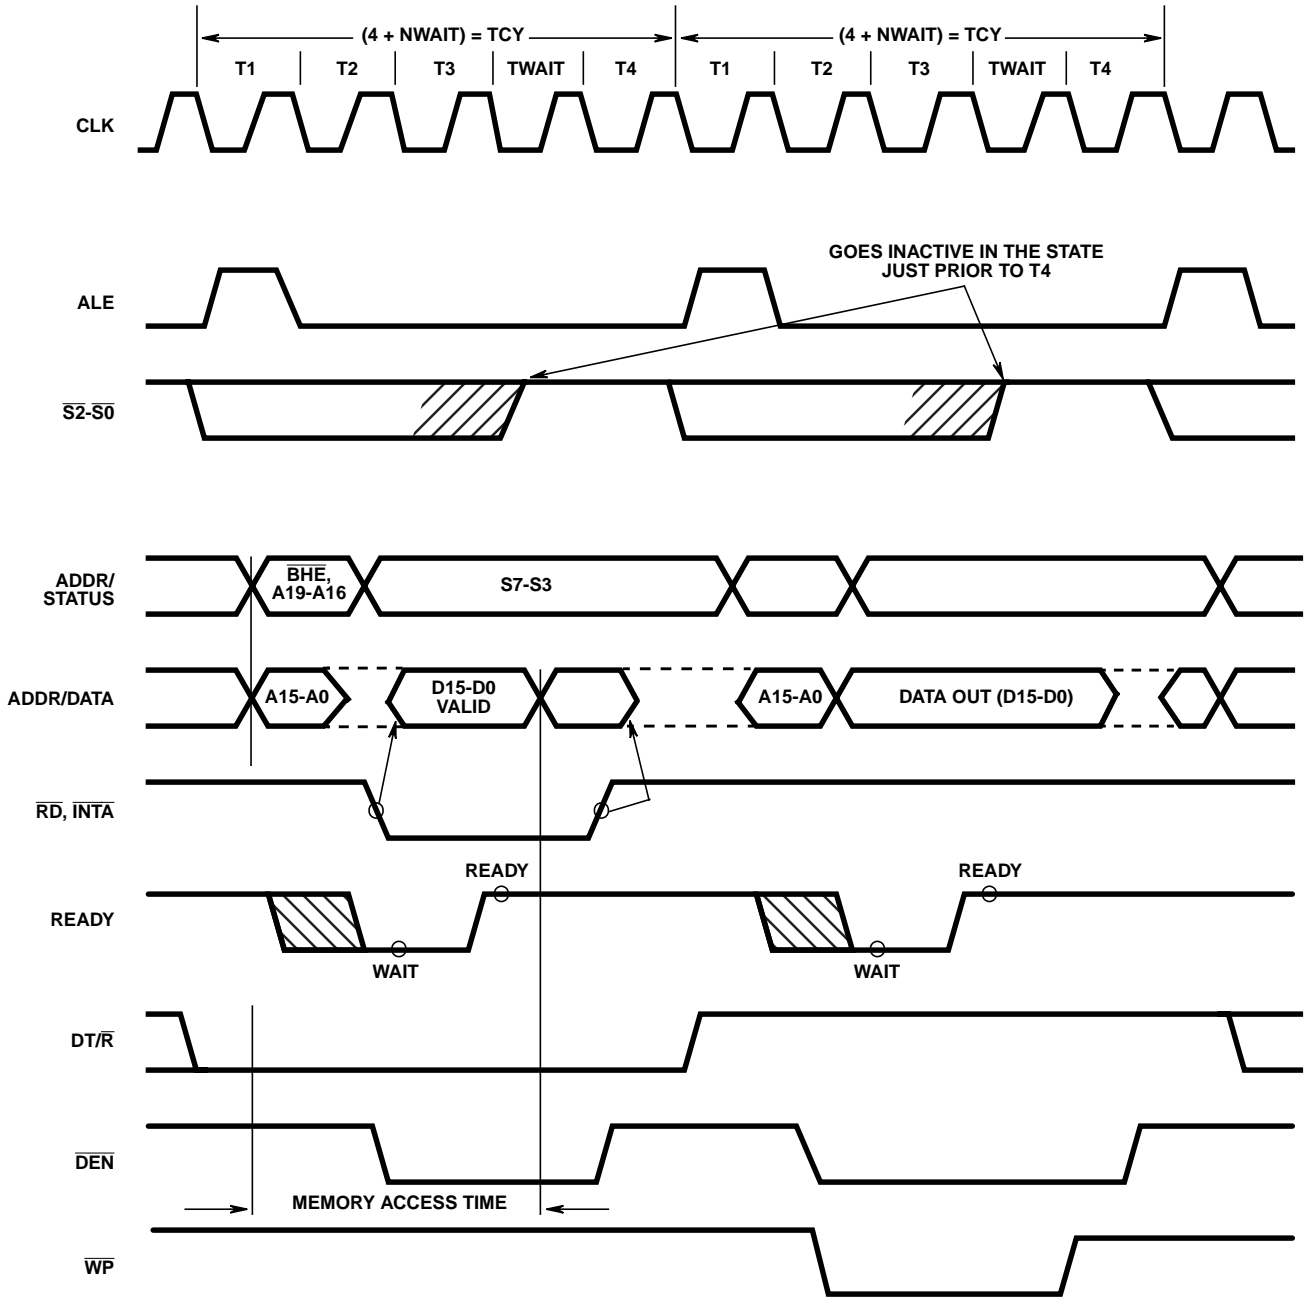

FIGURE 3. BASIC SYSTEM TIMING
Each processor bus cycle consists of at least four CLK cycles. These are referred to as T1, T2, T3 and T4 (see Figure 3). The address is emitted from the processor during T1 and data transfer occurs on the bus during T3 and T4. T2 is used primarily for changing the direction of the bus during read operations. In the event that a "NOT READY" indication is given by the addressed device, "Wait" states (TW) are inserted between T3 and T4. Each inserted wait state is the same duration as a CLK cycle. Idle periods occur between HS-80C86RH driven bus cycles whenever the processor performs internal processing.
Typical system configurations for the processor operating in minimum mode and in maximum mode are shown in Figures 6A and 6B, respectively. In minimum mode, the MN/MX pin is strapped to VDD and the processor emits bus control signals (e.g. $\overline{\text{RD}}$, $\overline{\text{WR}}$, etc.) directly. In maximum mode, the MN/MX pin is strapped to GND and the processor emits coded status information which the 82C88 bus controller used to generate MULTIBUS™ compatible bus control signals. Figure 3 shows the signal timing relationships.